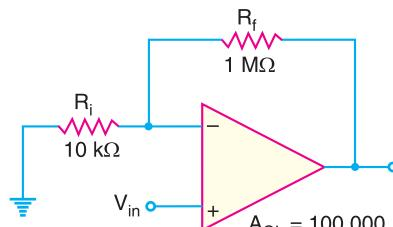

Fig. 25.103
10. Determine the closed-loop voltage gain for the circuit shown in Fig. 25.103.